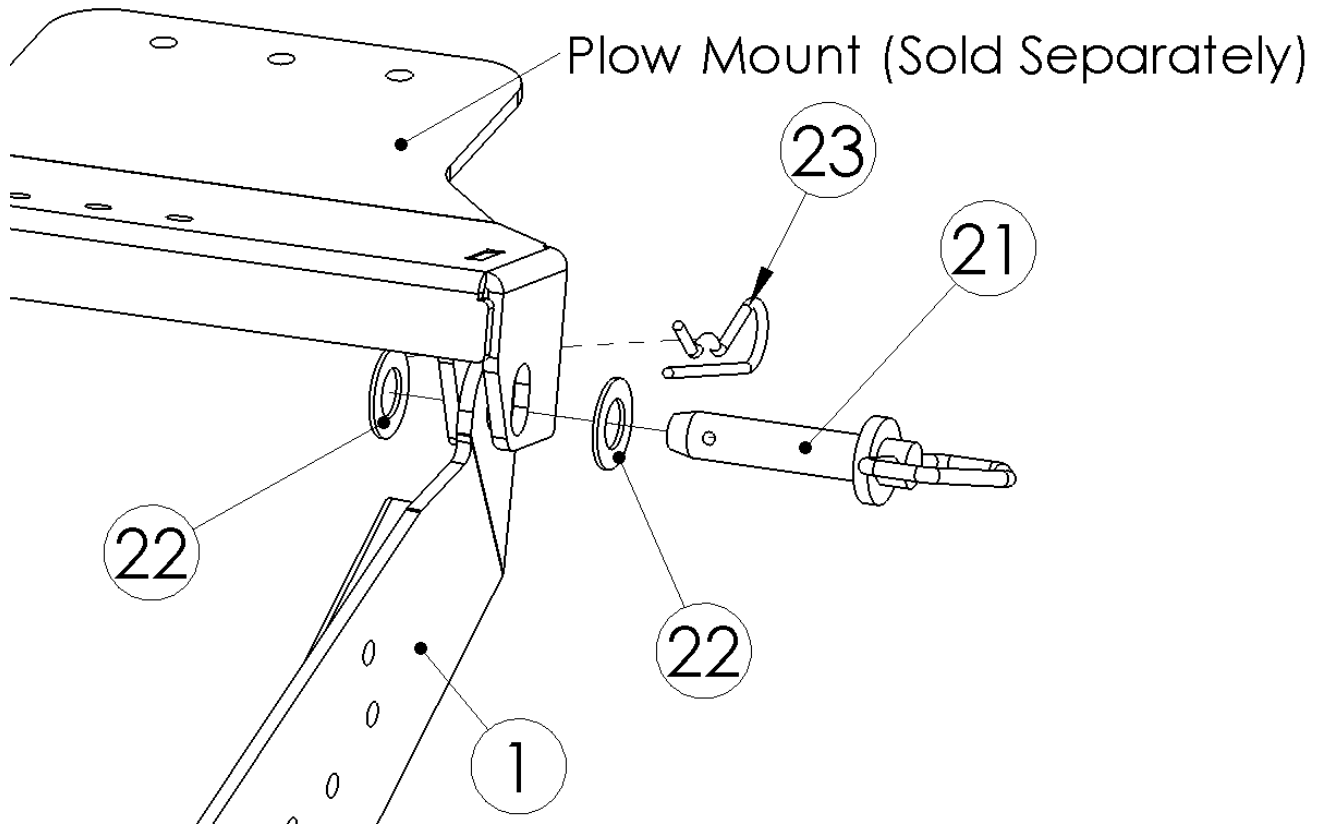

Figure 15
- 11) Attach the Plow System to the Plow Mount (sold and installed separately) using the 5/8" Quick Release Pins, 5/8" Flat Washers and R-Clips as shown in Figure 15.